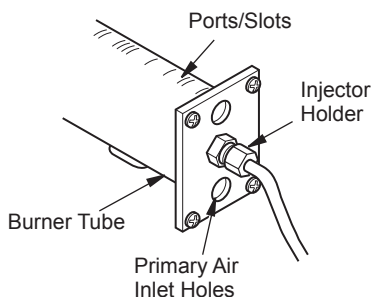

Figure 36 - Injector Holder On Outlet Burner Tube
2. Inspect burner, pilot and primary air inlet holes on injector holder for dust and dirt (see Figure 36).